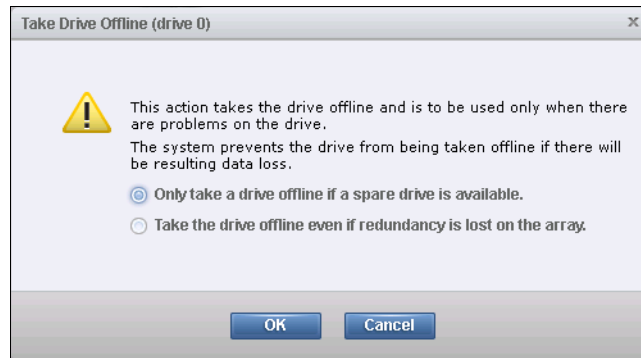

Figure 7-7 Take Drive Offline warning window
- **Take Offline:** When problems occur on the drives, the internal drives can be taken offline by selecting this option in the Actions drop-down menu. A confirmation window opens (Figure 7-7 on page 184). The IBM Storwize V7000 storage system prevents the drive from being taken offline if the result might produce data loss. A drive should be taken offline only if a spare drive is available.